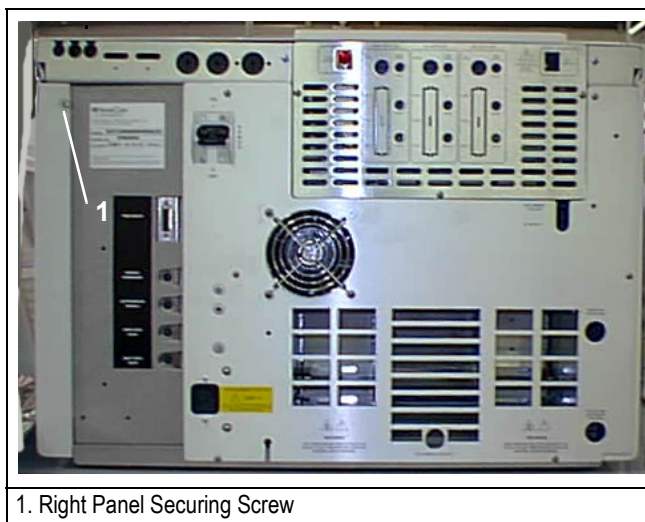

Figure A-3. TRACE GC 2000 Rear Panel
1. Loosen and remove the screw that secures the right side panel to the right upper rear corner of the GC by using the 3-mm Allen wrench. Refer to Figure A-3.